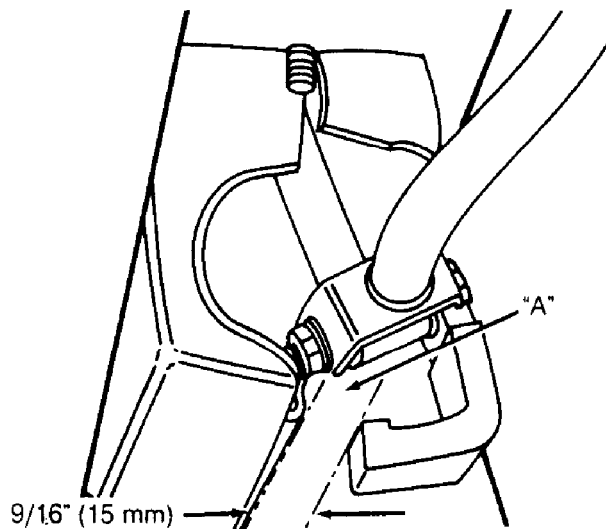

Fig. 3: Adjusting Cabriolet Shift Rod End
2) Adjust shift rod end so distance "A" is  $\frac{9}{16}$ ". See Fig. 3. Tighten shift rod clamp to 14 ft. lbs (19 N.m). If shift linkage is spongy or jamming after adjustment, change distance "A" to  $\frac{1}{2}$ ". If shift linkage will not stay adjusted, install a new clamp bolt and lock nut.